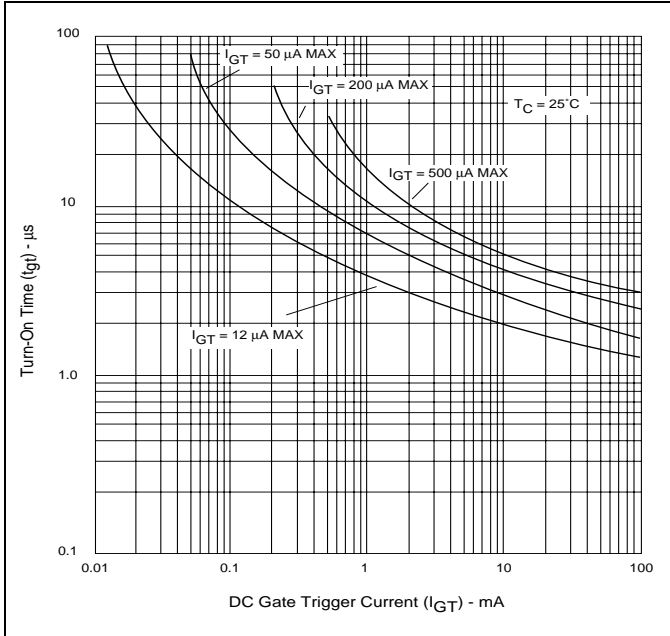

Figure 5.15 Typical Turn-On Time vs Gate Trigger Current
- (8) See Figure 5.15 for t_{gt} vs I_{GT} .
- (9) Test conditions as follows: